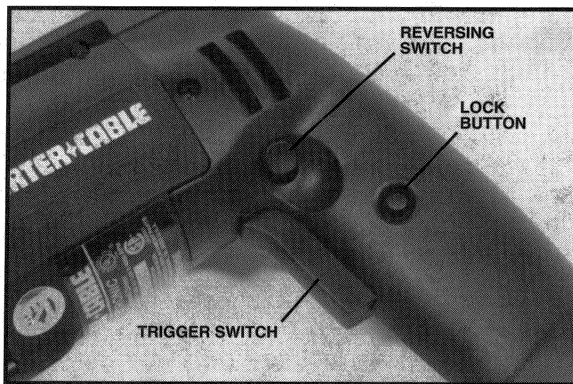

Fig. 1
2. Squeeze trigger switch (Fig. 1) to start motor, as the trigger switch is squeezed, the driver speed increases. The screwdriver bit will not rotate until engaged in a fastener and forward pressure is applied to the tool. To stop motor, release trigger switch.
3. LOCK BUTTON – A lock button (Fig. 1) is provided to keep motor running without holding the trigger switch ON.
4. DIRECTION OF ROTATION – PORTER-CABLE screwdrivers will rotate either in a clockwise direction for driving fasteners with a right hand thread, or a counterclockwise direction for removing fasteners with a right hand thread. To determine rotation, stop the motor by releasing the trigger switch and move the reversing lever (Fig. 1) in the direction marked “reverse” for counterclockwise rotation, or in the opposite direction for clockwise rotation.